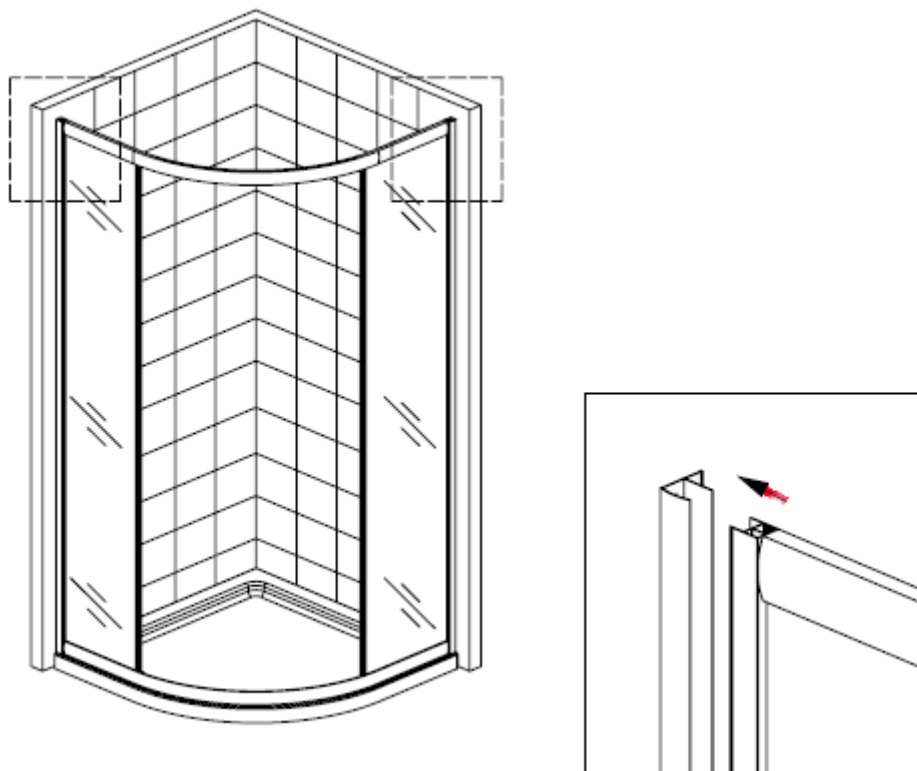

Figure 8
8. Move the whole door set finished in step 7 to the wall profile(N6Q1) ,as showed in figure 8.